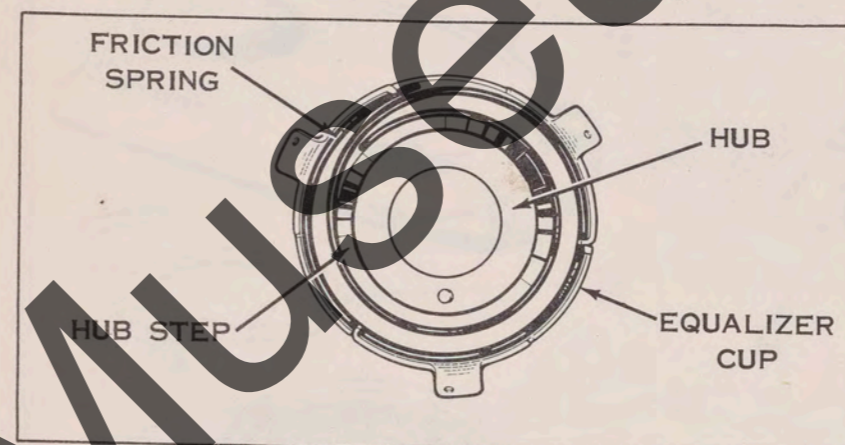

Figure 7-6. Hub, Equalizer Cup and Friction Spring Assembled
c. Insert starter hub into equalizer cup and friction spring. Make sure that spring is in correct position and is over step on hub as shown in figure 7-6.